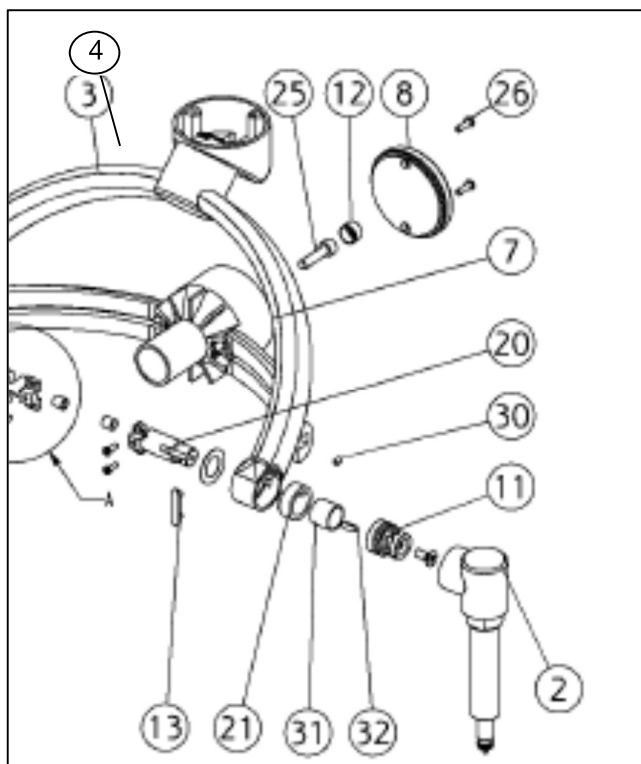

Figure 3 – Operating Light head
Check in a distance of 70 cm from the light head: <input type="checkbox"/> That the light field is a well-defined square <input type="checkbox"/> If necessary, adjust focus using the adjustment screw (25) in Figure 3
<input type="checkbox"/> Check the friction in the light head by moving the head up/down – left/right with the handles. The movement shall be “smooth”, without being too easy or too difficult to move. <input type="checkbox"/> If necessary adjust the friction by means of the small Allen screw – see (30) and (4) in Figure 3